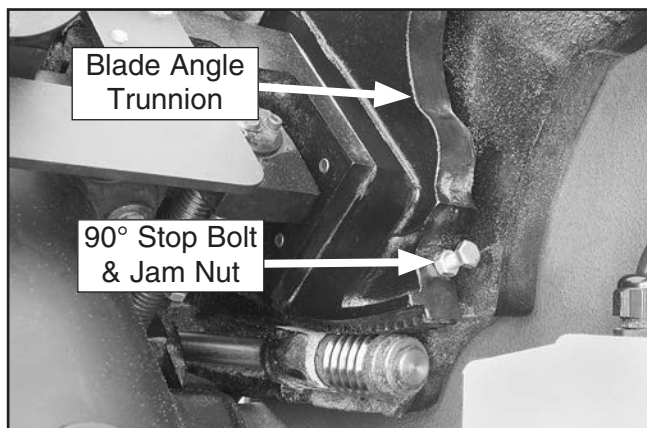

Figure 106. 90° stop bolt and jam nut.
5. Open motor cover, loosen jam nut shown in **Figures 106–107**, adjust stop bolt up or down according to how far off blade was from 90°, then repeat **Steps 2–3** until blade stops at 90°.